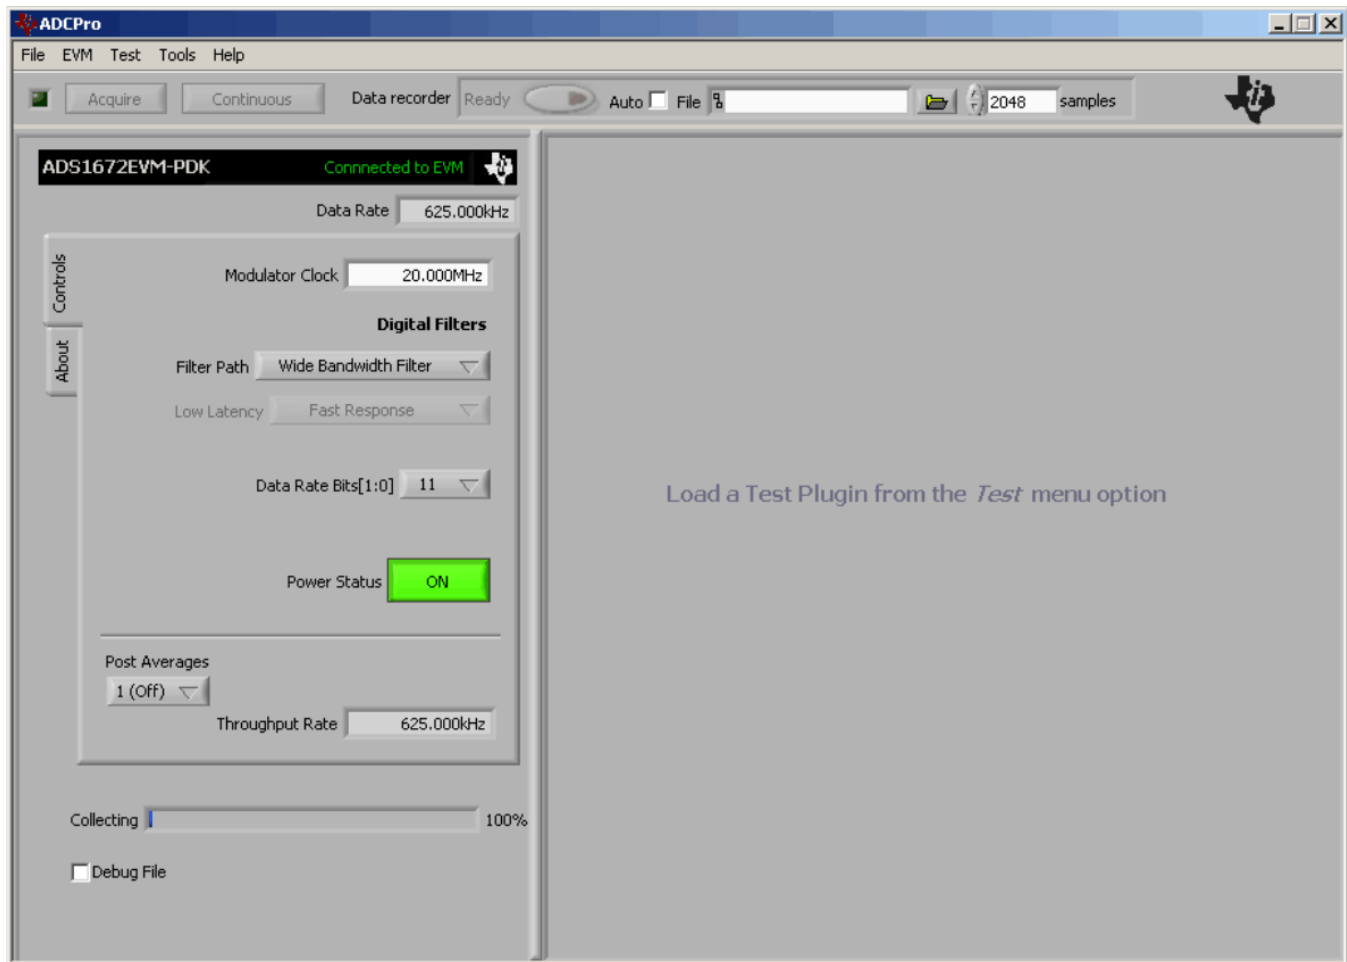

Figure 14. ADS1672EVM-PDK Plug-In Display Window
- Step 2. Select ADS1672EVM from the EVM drop-down menu. The ADS1672EVM-PDK plug-in appears in the left pane, as shown in Figure 14.
The ADS1672EVM-PDK plug-in for ADCPro provides complete control over all settings of the ADS1672. It consists of a tabbed interface (see Figure 14), with all of the functions available on the main tab. The controls on the main tab are described in this section.